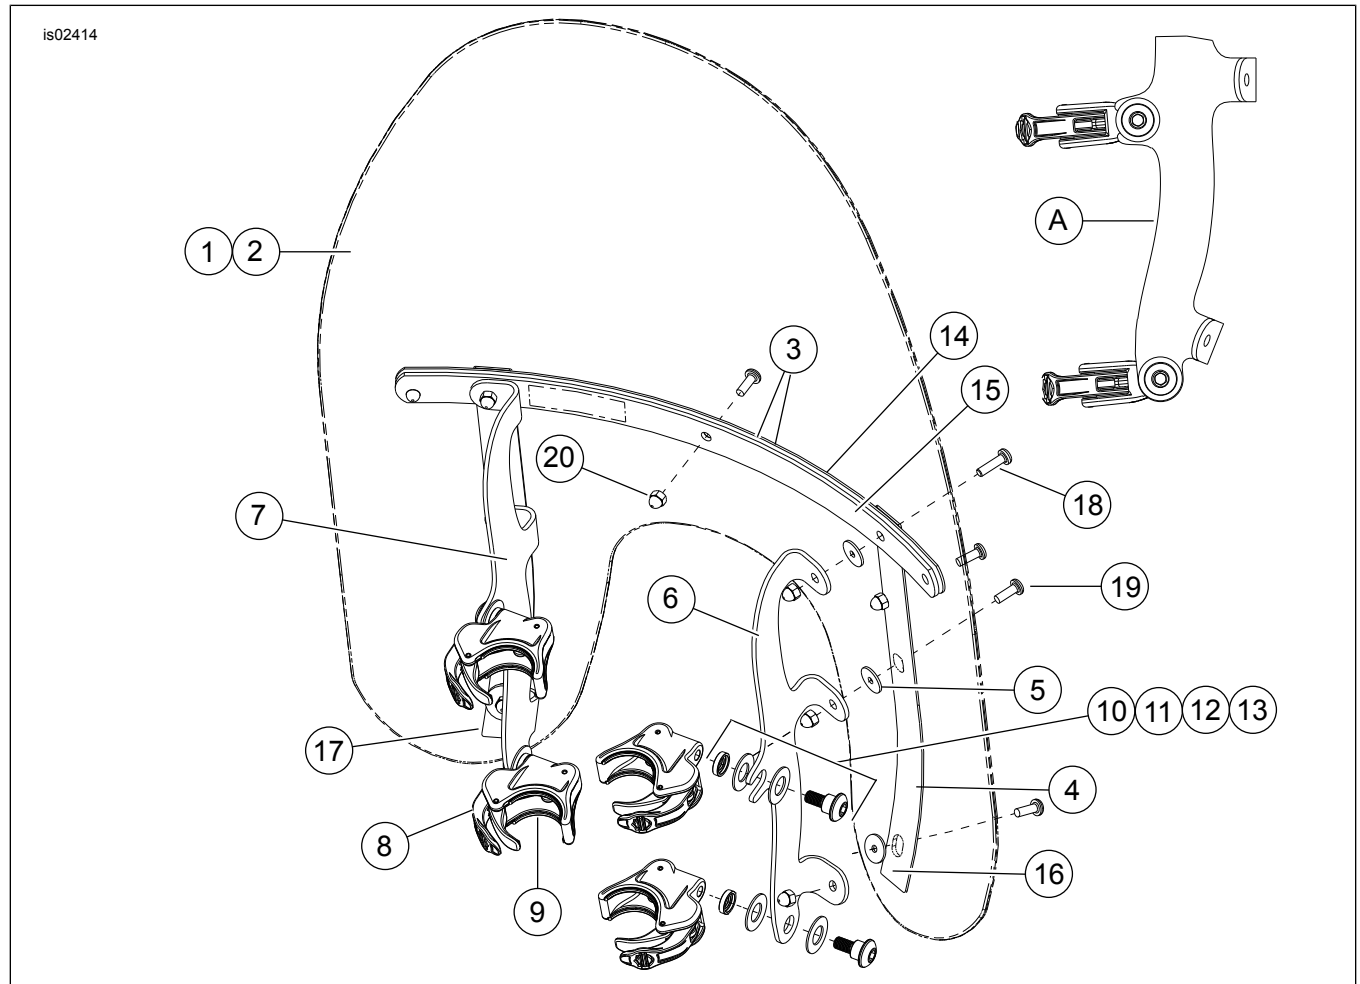
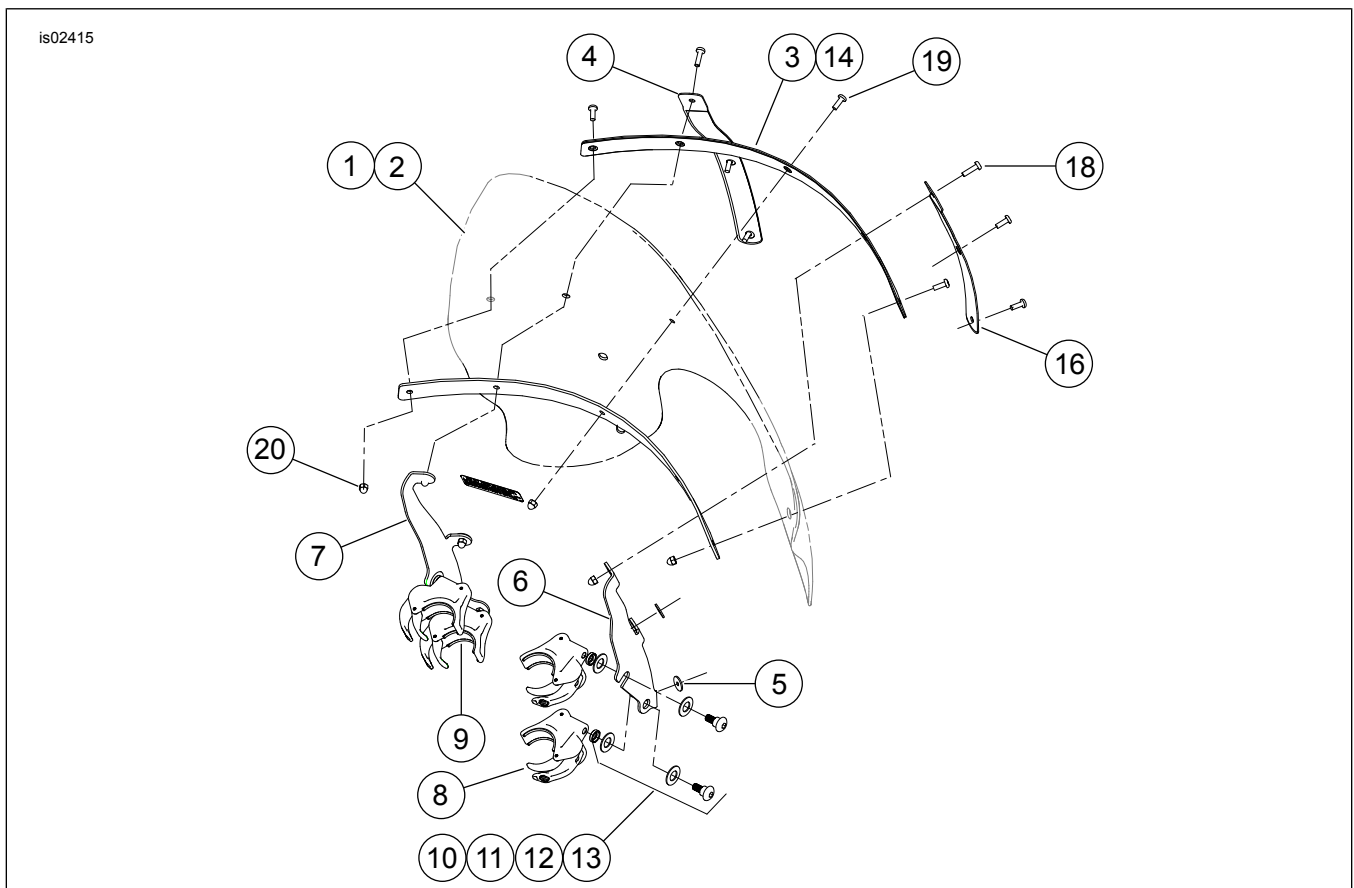

Figure 3. Kit Contents: Compact Quick Release Windshield Kits (58387-06, 58413-06, 58444-06, 58346-06, 58347-06, 58348-06)
Figure 4. Kit Contents: Touring Quick Release Windshield Kits (57015-06, 57016-06)
- See Figure 3, Figure 4, Figure 5, Figure 6, Figure 7 and Figure 8. Remove both the clamp and hardware kits from the packaging, and separate similar parts in preparation for assembly.